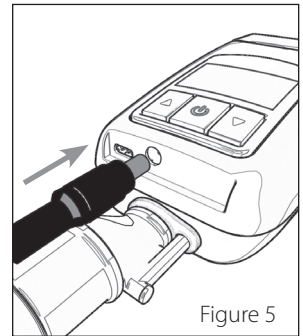

Figure 5
3. Plug the AC Adapter into the **Z2**. (Figure 5)